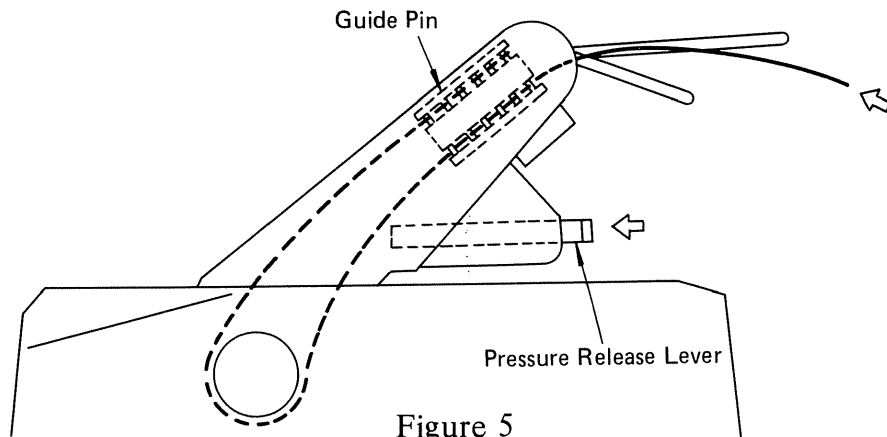

Figure 5
5. Pull the Pressure Release Lever forward (towards the front of the Printer) and gently pull the paper up to the Tractor Feed Sprocket Guide Pins. (See Figure 5)